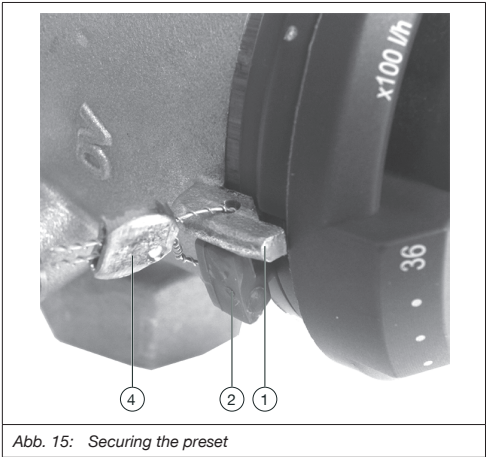

Abb. 15: Securing the preset
| <div><div><div></div></div><div></div></div> | Optionally, the blocking ring (2) can be lead-sealed with the lead seal set (4) (accessory, item no. 1089091) at the target value marking (1) (see Abb. 15). |